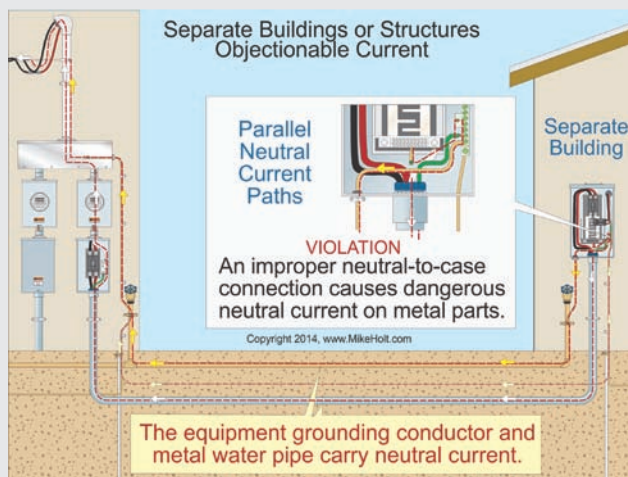

Figure 250-27
**Disconnects.** Objectionable neutral current will flow on metal parts and the equipment grounding conductor when the neutral conductor is connected to the metal case of a disconnecting means that's not part of the service equipment. Figure 250-27